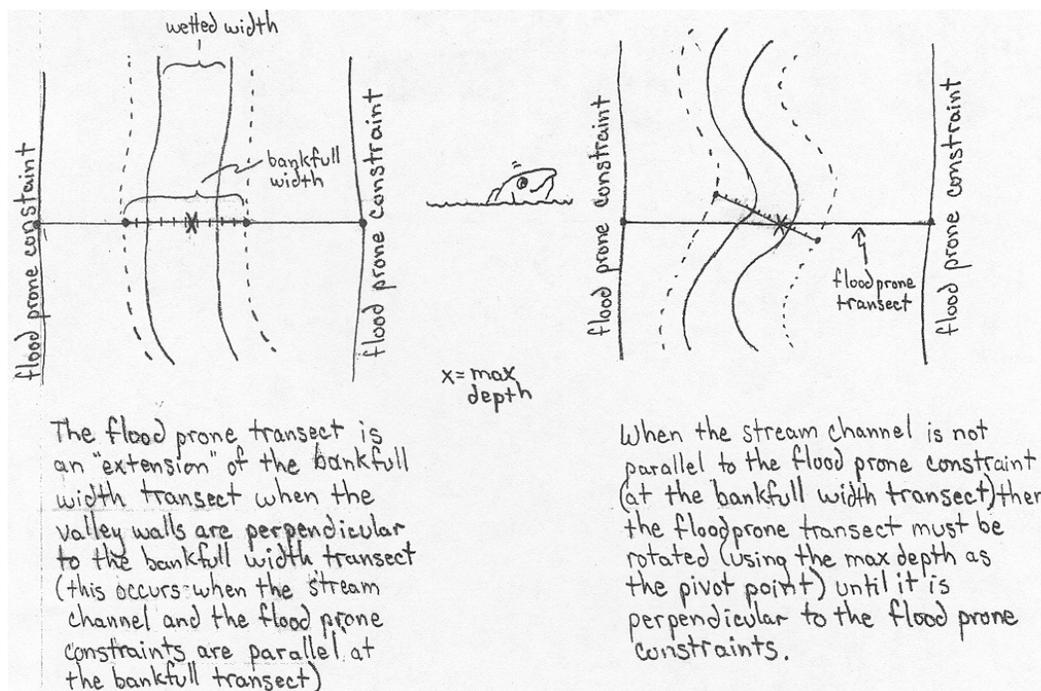

Figure 3: Example of Entrenchment transect rotated to be perpendicular to flood prone constraints (diagram on right).
3. Measure bankfull widths perpendicular to the channel. Measure flood prone widths perpendicular to the flood prone constraints. See Figure 3
6. Measure the flood prone width at the cross section. This is the width of the channel/floodplain at twice the maximum bankfull depth as determined during the cross-section measurement. Record the width to the nearest 10 cm. The cross-section may have to be rotated so that the flood prone measurement is perpendicular to the floodplain constraints. A second meter tape will be stretched across the channel using the thalweg as a pivot point. (See Figure 3).